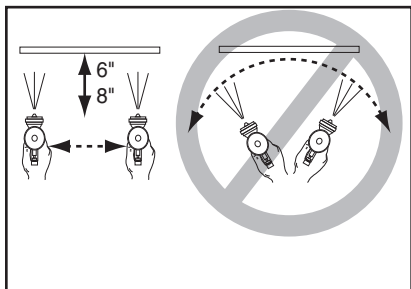

Figure 4. Spray technique.
9. Keep the gun tip perpendicular, parallel and 6-8" from the work at all times when spraying as shown in **Figure 4**. Do not allow your wrist to bend. This will cause the gun to arc across the surface and distribute the material unevenly, possibly creating sags and dry spots.